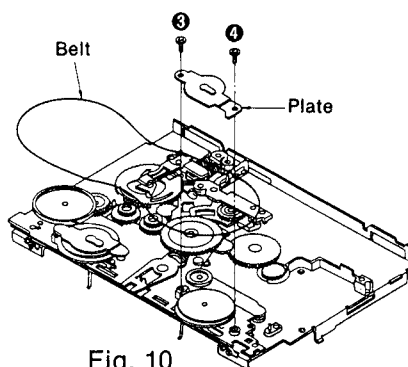

Fig. 10
4. Remove 2 screws (③, ④) and then the attachment plate to remove the belt. (See Fig. 10.)